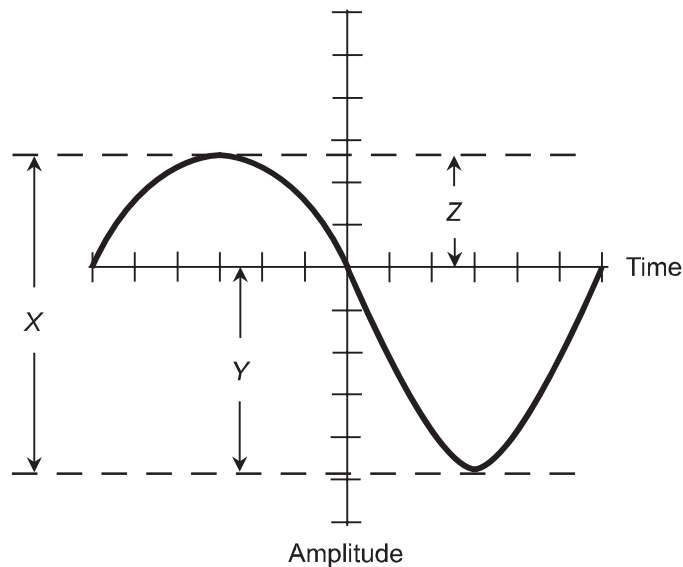

Fig. Exam-1. Illustration for Final Exam Questions 2 through 5.
2. Fig. Exam-1 is an illustration of
3. In Fig. Exam-1, X represents the
4. In Fig. Exam-1, Y represents the
5. In Fig. Exam-1, Z represents the